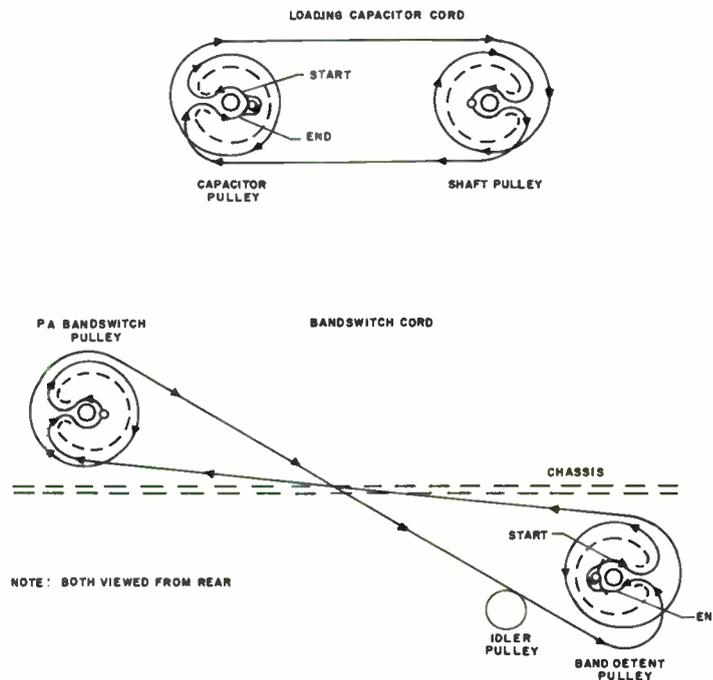

Figure 4-4. Dial Cord Stringing Diagram
4.7 Dial Cord Replacement. (Refer to figure 4-4).
- c. Place the BAND switch in position 1A, and rotate the PA band-switch pulley to the approximate position shown in figure 4-4.
The band detent pulley may not be in the exact same position shown in figure 4-4. Do not reposition this pulley, but assume it to be in the correct position during restringing.
- d. Replace the old cord with three feet of new cord, Collins part number 432-1009-00. When ordering dial cord, be sure to state the desired length in feet. String the cord according to the band-switch cord illustration in figure 4-4. Make sure cords do not overlap on the pulleys. Pull cord tight, and tie to the tab. Mash the tab down to clamp the cord securely. Tighten the idler gear to bring the cord to tension.
e. String the cord according to the loading capacitor cord illustration in figure 4-4. Make sure cords do not overlap on the pulleys. Pull cord tight, and tie to